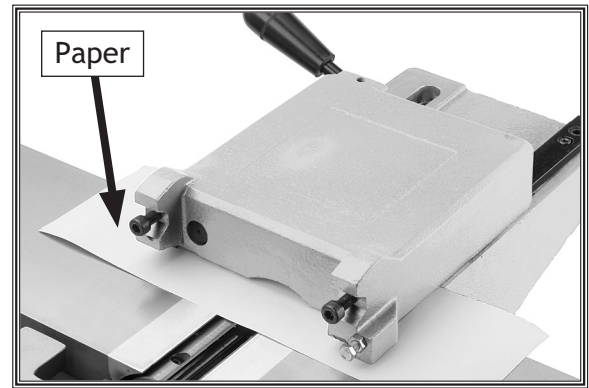

Figure 18. Carriage resting on paper to prop it up during tightening.
22. Place three pieces of paper on the jointer bed, slide the top half of the carriage over the paper, and allow it to rest on the paper, as shown in **Figure 18**.